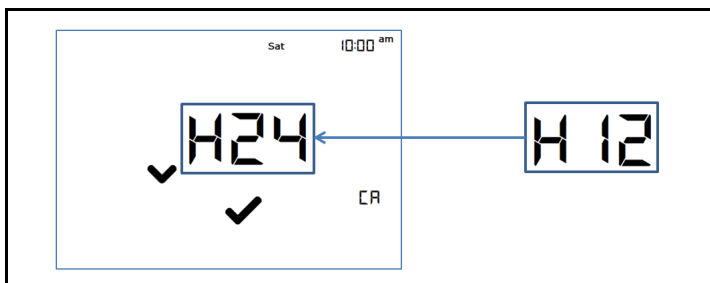

Figure 3-17 - Time Format Setting with Check Icon
- The first step in time settings is to set the time format between 12 hours AM/PM or 24 hours. Select between H12 for 12-hours AM/PM and H24 for 24-hours format, and then press the check icon to go to the next parameter (see *Figure 3-17*). Press CA to cancel and return to the normal display without saving any changes.